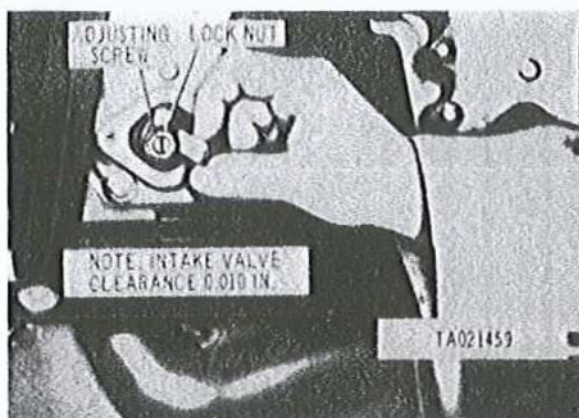

Figure 2-154. Setting intake valve clearance.
(5) Loosen intake valve adjusting screw lock nut (fig. 2-154). Turn valve adjusting screw until clearance between screw pad and valve stem is